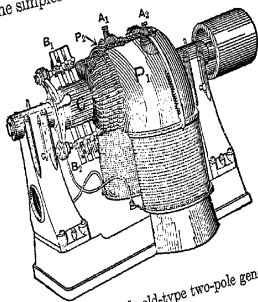
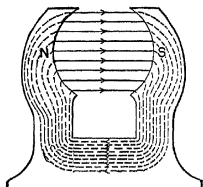
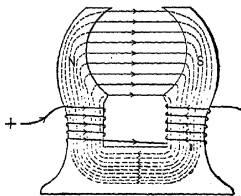

FIG. 181. Simple old-type two-pole generator.
FIG. 185. Diagram of the magnetic lines in a two-pole generator.
FIG. 187. The current in the coils produces the magnetic field.
97. Voltage Generated in Armature Wires. Fig. 181 represents the simplest form of two-pole direct-current gener-
The magnetic field of the 2-pole motor in Fig. 181 is merely the field of a bar magnet bent into a horseshoe as in Fig. 185. Note that here, too, the lines come out of the north pole and enter the south pole, go through the yoke and back again to the north pole.
It will be noted that around the pole pieces P_1 and P_2 of Fig. 181, there are wound coils of wire. These coils supply the magnetizing
In order to produce a field as in Fig. 185, which is the field for the machine of Fig. 181, we merely have to wind coils around the pole pieces and send a current through the coils in the proper direction, as in Fig. 187.